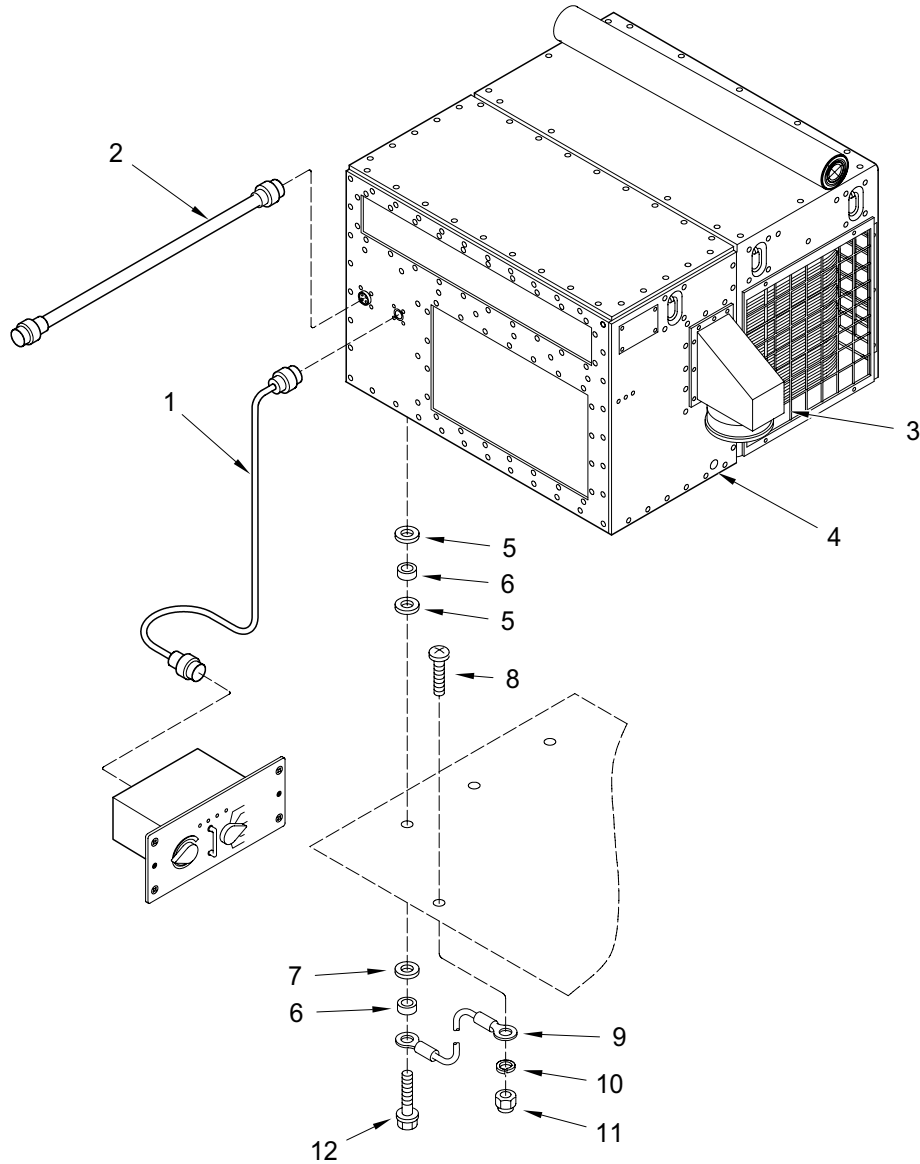

Figure 4. GENERAL INSTALLATION ITEMS.
The following items are not provided as part of the environmental control unit. They are part of the shelter and are necessary for environmental control unit installation and operation. Figure 4
12. Position lifting device so that lifting hook (1) is centered over Environmental Control Unit. See Figure 4
13. Connect sling to the four outside corners (2) Environmental Control Unit lifting rings and the lifting device. See Figure 4.